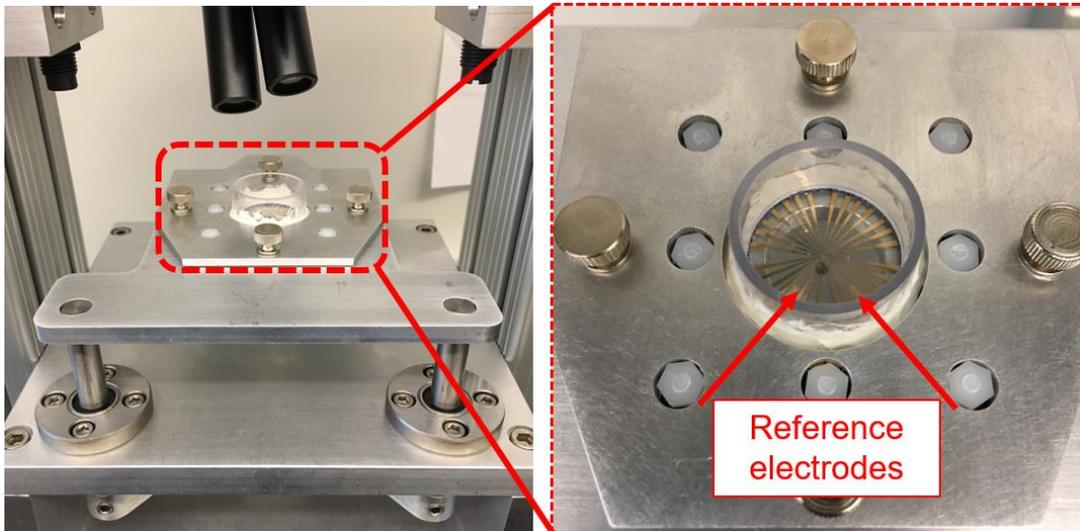

Fig. 29: sMEA in the mechanical holder with the reference electrodes towards the front.
- 2) Note the orientation of the sMEA on the movable platform (simple mechanical holder in **Fig. 29** below) of the MEASSuRE frame.